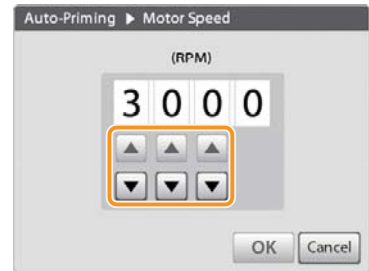

Figure 3-80
3. Tap ▲ or ▼ to input the motor speed you want to set. (Figure 3-80)